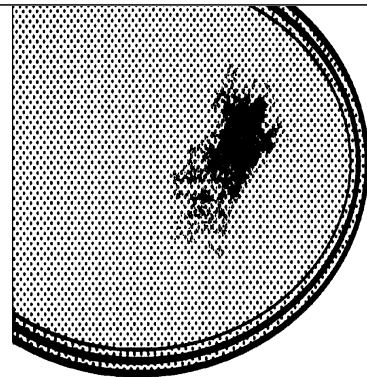

FIG. 6
- After a period of time metal reflex and scratches (fig. 6) may appear due to the wrong cleaning and the wrong use of the pots. The scratches cannot be removed, but they do not compromise the good operating of the hob.